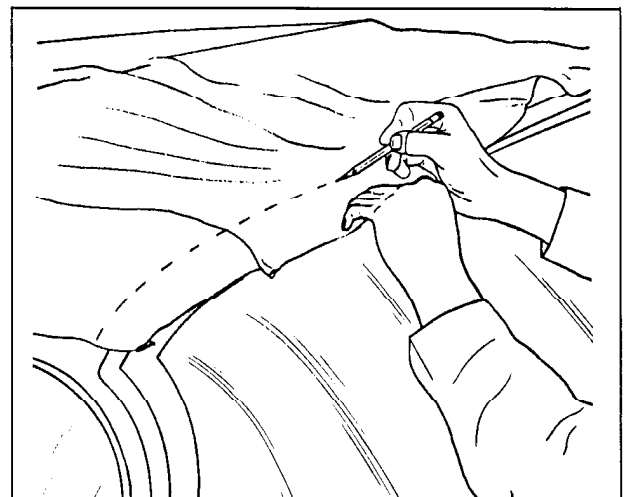

Fig. 17-146 Marking Top Material
46. At front roof rail, pull top trim material forward to desired tension. While maintaining tension on top trim, place a pencil mark on outer surface of trim material along forward edge of front roof rail. (Fig. 17-146)